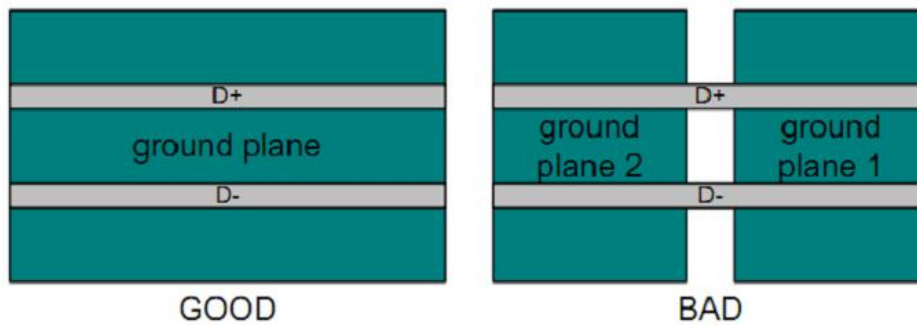

Figure 4-22 USB Signal Trace Reference Plane
- In order to suppress EMI, the USB signal traces are recommended to be placed in an inner layer and ensure the reference plane is continuous and complete; otherwise, it will cause discontinuities in the traces impedance and increase the external noise on them, shown as Figure 4-22.